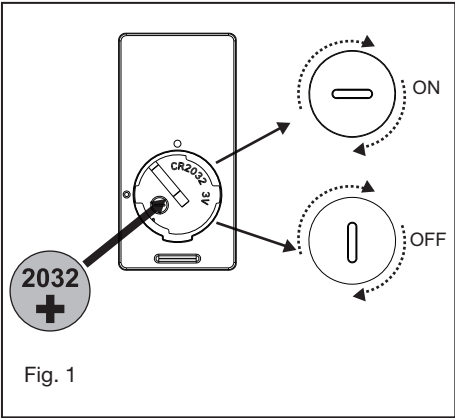

Fig. 1
- Insert the receiver into the ceiling mounting bracket with the flat side of the receiver facing the ceiling. (Fig. 1) For best performance, make sure the Black Antenna, on the end of the receiver, remains extended and not tangled with any of the electrical wires.
- 1 Remove one of the three screws on the mounting hub located on the fan motor. Loosen the other 2 screws. (Do not remove) (Fig. 1)
- 1 Select a desired location. Use the wall plate to mark the location of the mounting holes. Plastic wall anchors or mounting screws are needed for this application. (Fig. 1)
Remove the panel from the transmitter and then install one 2032 battery (included). You need to use a coin to open or close the battery cover. To prevent damage to transmitter, remove the battery if not use for long periods of time (Fig. 1)